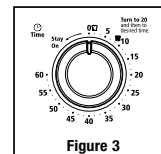

Figure 3
3. **Timer Control Knob with Bell Signal** – Set cooking time up to 60 minutes. Will automatically turn the oven OFF at the end of the cooking time. (See Figure 3)